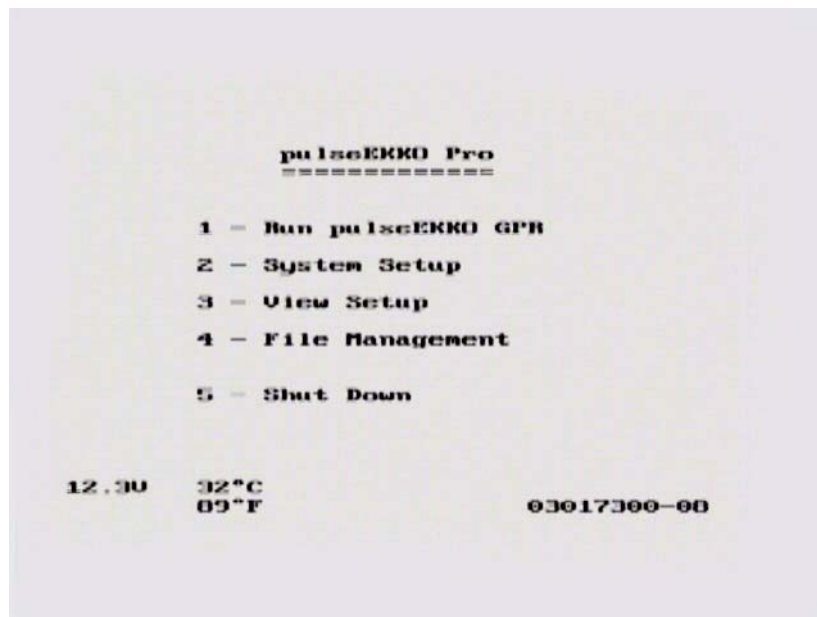
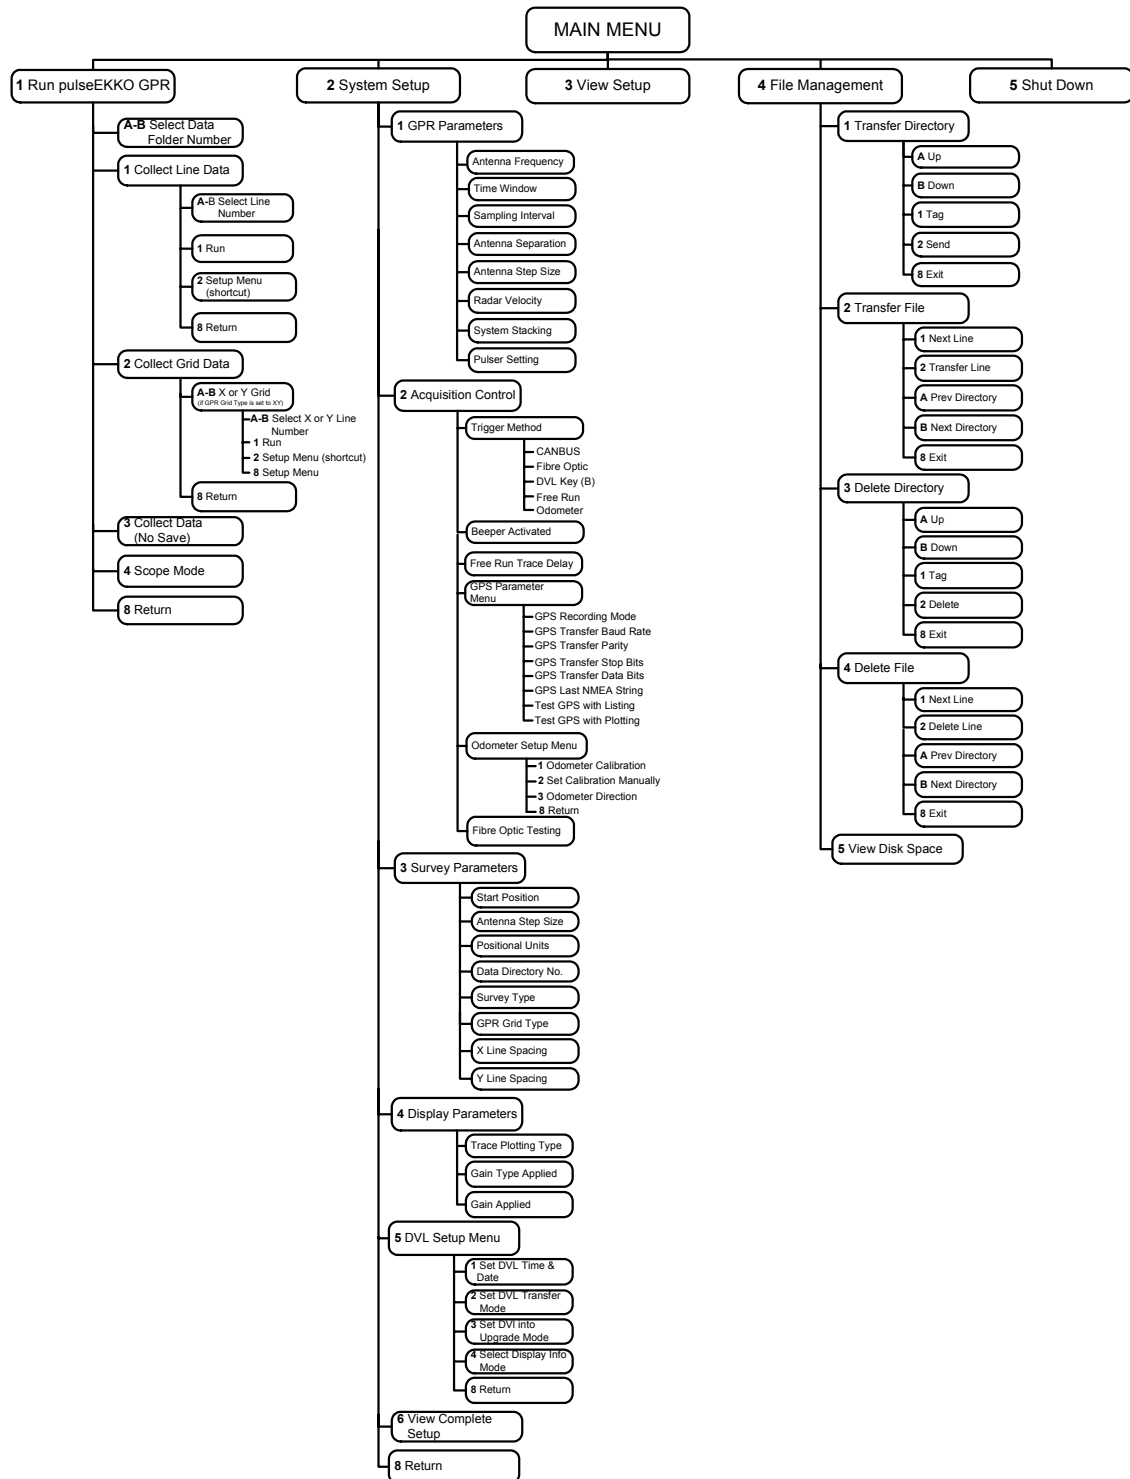

Figure 2-36: pulseEKKO PRO main menu screen on the DVL.
Figure 2-37: Flow chart of the complete pulseEKKO PRO DVL menu system.
Once all components are properly connected, the radar is ready to operate under DVL control. Turn the DVL on by pressing any button on the front. After the DVL boots up the main menu is displayed (Figure 2-36). There is also a flow chart of the complete menu system on the DVL shown in Figure 2-37.
- 1) If the menu item has a number listed beside it, that item can be selected by pressing the corresponding button number on the DVL. For example, in the above menu (See Figure 2-36 on page 27), pressing the number 1 will select the option for running a pulseEKKO GPR system.
The **System Setup** option from the main menu (See Figure 2-36 on page 27) is used to set up the data collection parameters.
Selecting **View Complete Setup** from this menu or **View Setup** from the main menu (See Figure 2-36 on page 27) displays all the current parameter settings for the pulseEKKO PRO system. A screen display similar to the one in Figure 3-2 will be seen: